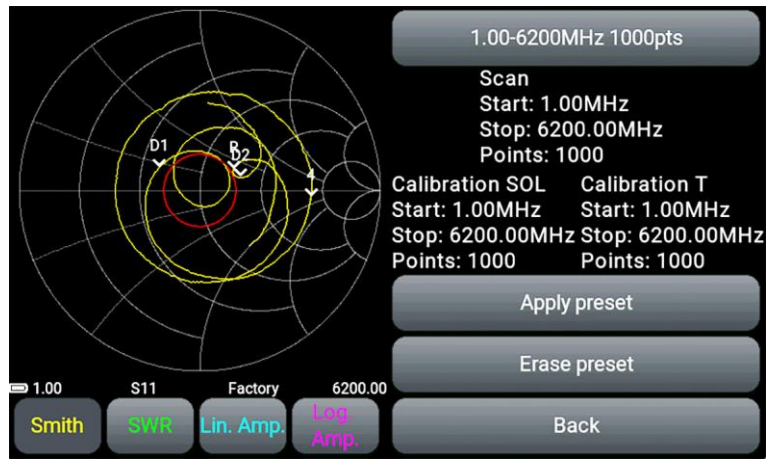

Figure 9.24 - Menu for working with custom settings
9.12.3. By clicking on the button with the saved setting, the user can apply the **Apply preset** setting or delete the **Erase preset** setting (Figure 9.24).